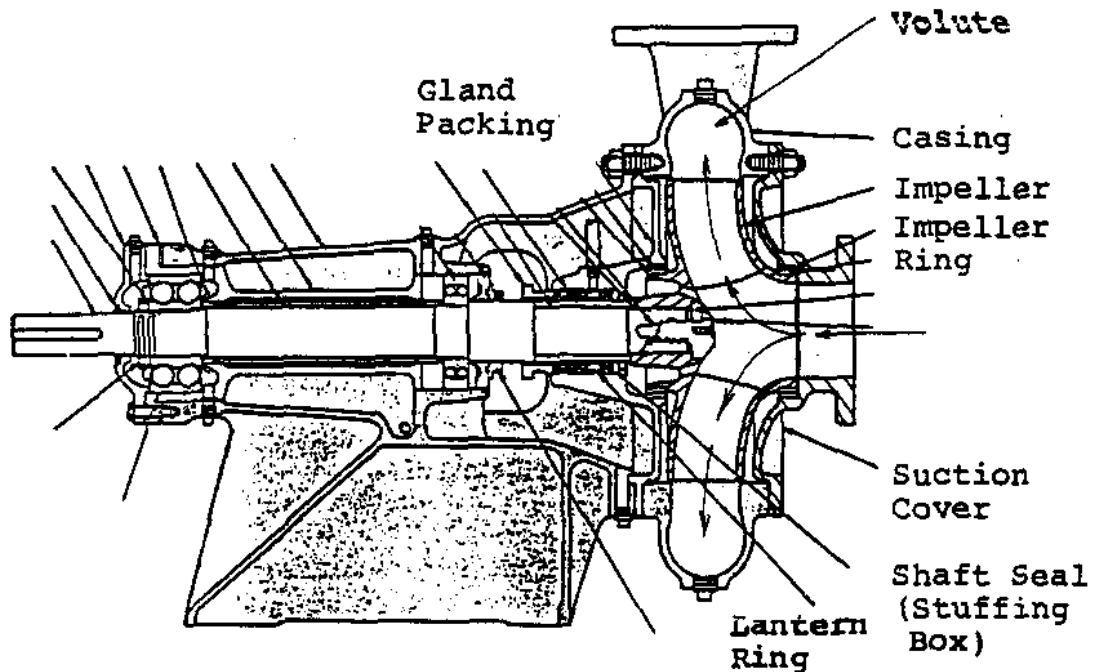

Figure 2
- (a) horizontally mounted, Figure 2.
- (a) single stage, Figures 2, 3.
- (a) Radially split casing, Figure 2. The plane of split is perpendicular to the shaft.